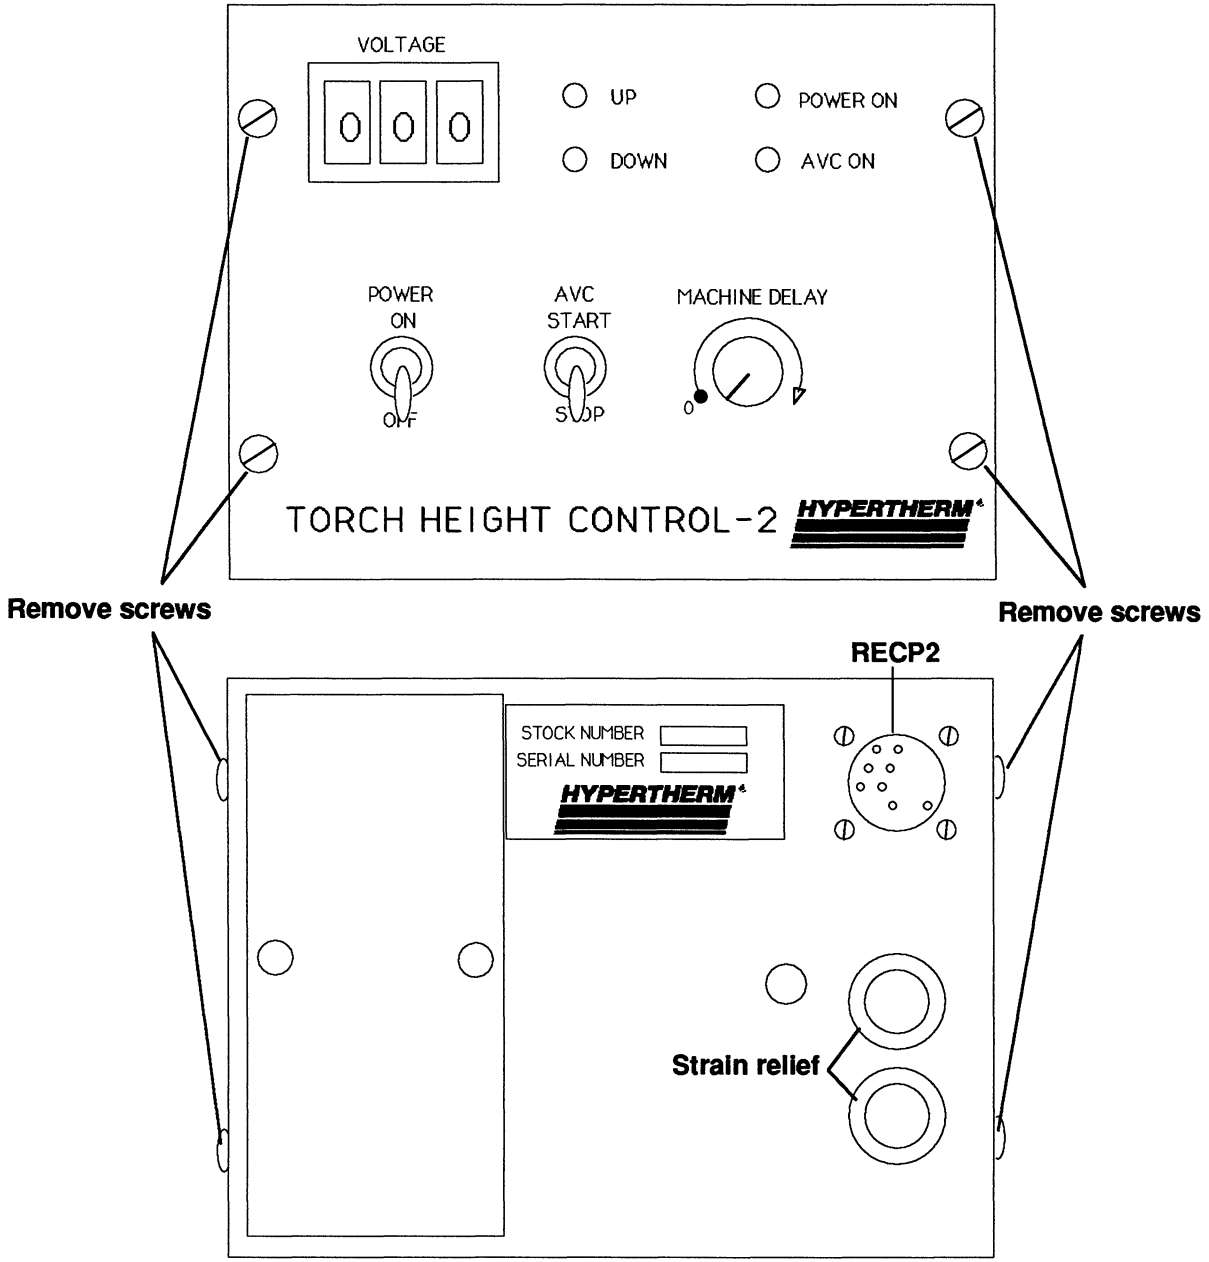

Figure 3 THC-2 Front and Rear Panels
1. Remove the eight screws on the THC-2 Control module (see Figure 3) and remove the top panel. Locate the THC-2 module near the MAX200 power supply.
2. Connect the interface cable to RECP2 on the THC-2 module (see Figure 3).
1. Thread the cables through the strain reliefs located on the back panel of the THC-2 module. See Figure 3.